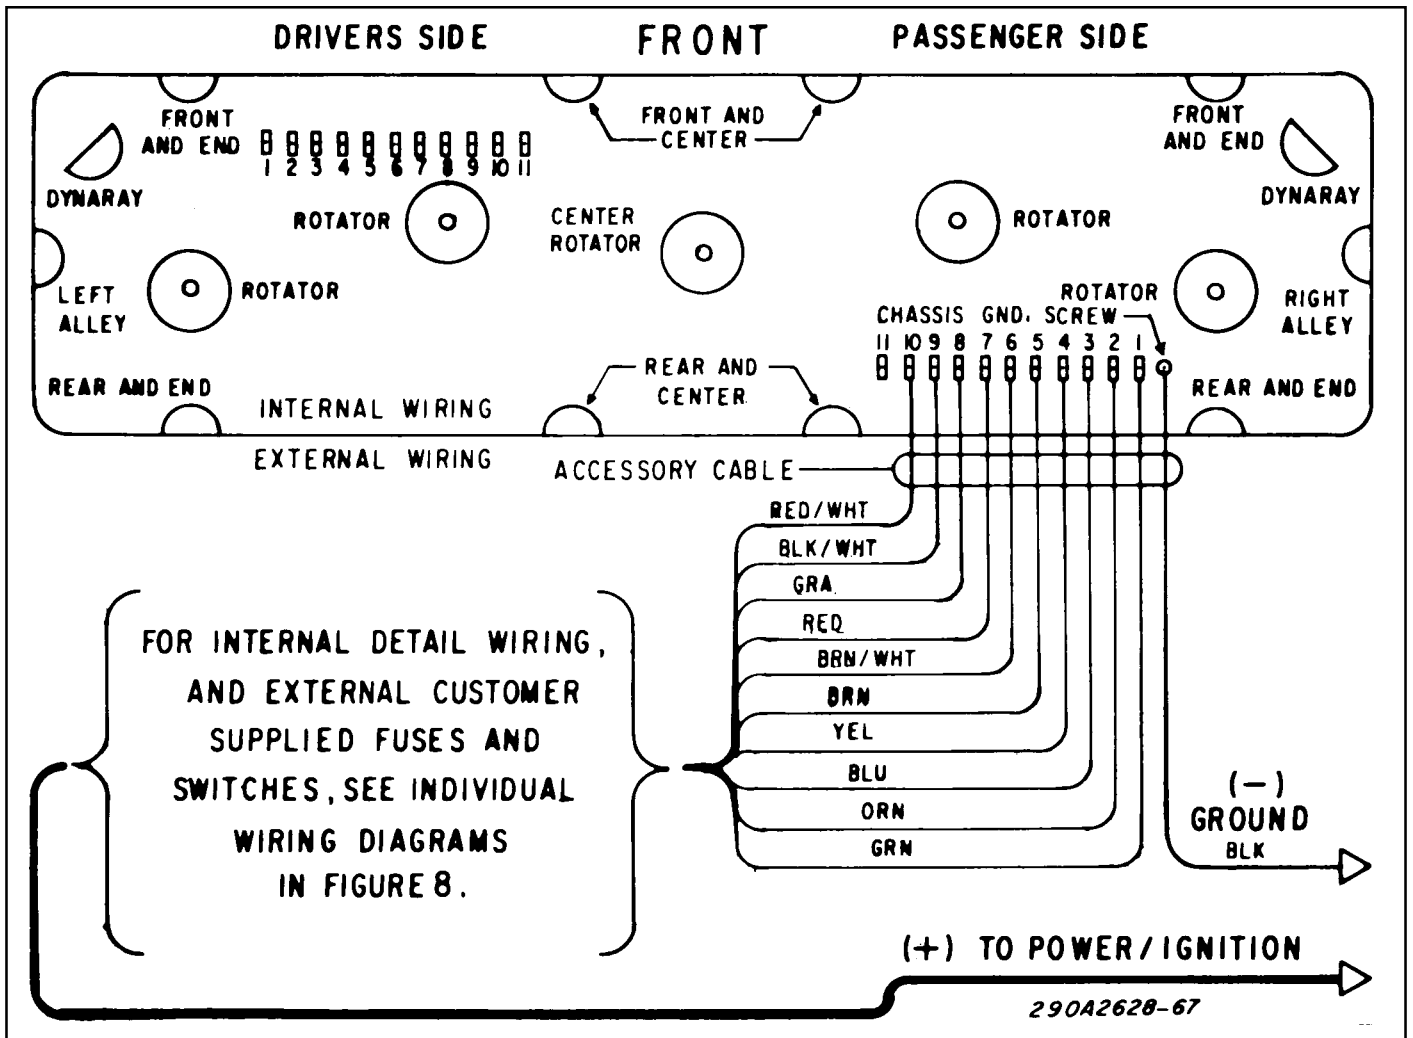

Figure 6.
28. Reconnect the red wire to terminal 4 of the molded-in driver side terminal strip. Using figures 6, 7 and your notes as a guide, connect the wires listed in chart 1 to the appropriate terminals of the molded-in driver side terminal strip.
36. Before proceeding, test the operation of all lights to ensure proper operation. Use a test jumper wire to connect the lightbar to vehicle ground. Use another test jumper wire connected to +12VDC and touch it to the appropriate passenger side terminal strip position. See figure 6. Ensure that all moving parts are free to move without obstruction.
40. Reinstall and secure the mounting kit parts on the lightbar as described in the instructions included with the mounting kit. Place the lightbar in position on the vehicle. Reinstall the incoming cable, if removed, and secure using the cable clamp. Torque the #10 cable clamp screws to 30 - 55 in-lbs. Using your notes and figure 6 as a guide, reconnect the incoming cable wires to the molded-in terminal strip. Using a silicone sealant, seal the area around the cable where it enters the base.
To prevent personal injury and/or damage to vehicle components, in the event of a short-circuit in the power cable, ensure that a fuse is installed in each incoming cable conductor. Use figures 6, 7, and table 2 to determine the proper fuse for each conductor.